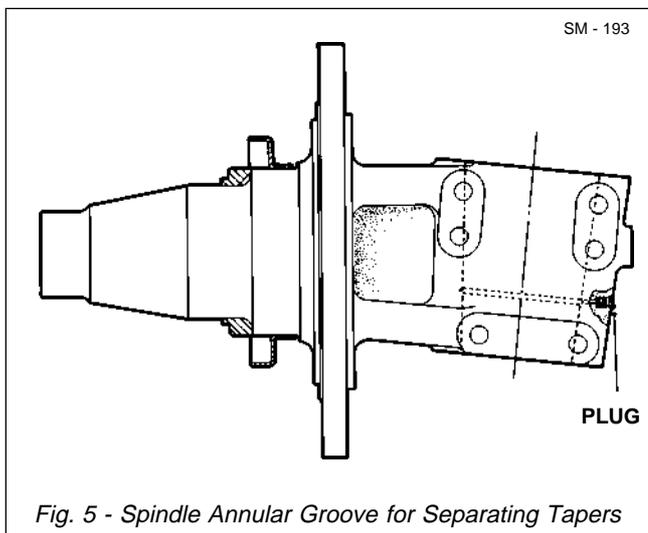

Fig. 5 - Spindle Annular Groove for Separating Tapers
**Note:** Piston rod (22) must be separated from the spindle for proper disassembly and assembly. It is best to disassemble and assemble piston rod from top of cylinder so holes in rod do not have to pass over seals.
5. The spindle can be removed from the rod by applying hydraulic pressure through the annular groove machined on the spindle taper. This can be done by removing the small plug from the spindle, and connecting a hand pump or high pressure grease gun. Refer to Fig. 5.
6. Remove bolts (8) and hardened washers (32) securing piston (9) to top of piston rod (22).
7. Install a lifting eye in the top of piston rod (22) and attach to an adequate lifting device. Slide piston rod (22) and piston (9) as an assembly out from top of tube (18).
**Note:** When removing piston rod (22), seal retainer (13) and inner tube (7) should come out as an assembly. If they do not come out intact after removing piston rod (22), remove inner tube (7) and seal retainer (13) individually from tube (18).
8. Slide piston (9) up piston rod (22) and remove ball (23).
**Note:** Take care not to misplace ball (23).
9. Remove piston (9) and remove wear ring (10) from piston.
10. Remove and discard 'O' ring (11), backup ring (12) and seal (14) from seal retainer (13).